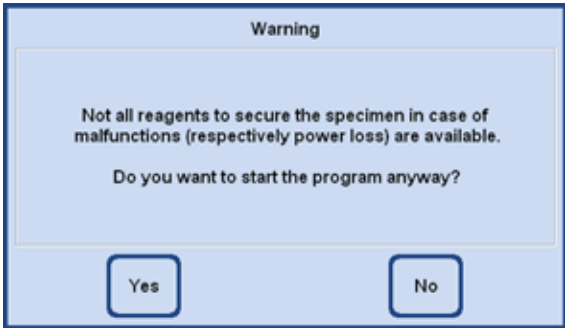

Fig. 245
- If a reagent is being used for which no safe reagent is in the instrument when the program starts, a warning message appears (Fig. 245). However, the program launch is **NOT** aborted.